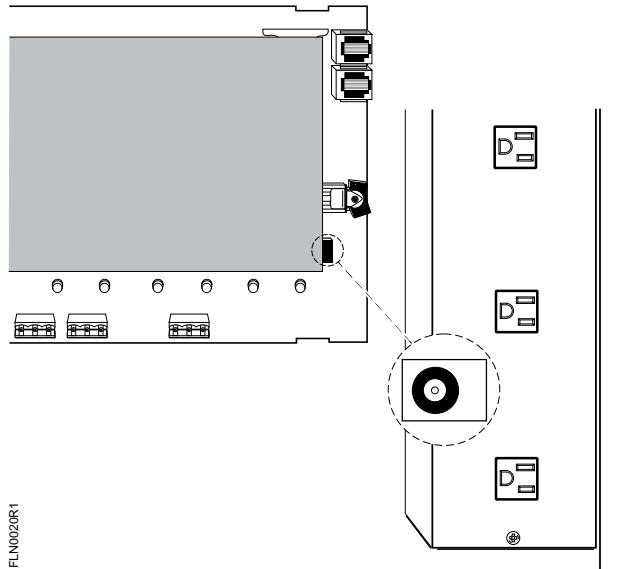

Figure 7. 12 Vdc Power Supply Connection to Easylink Module.
1. Insert the DIN plug into the DIN socket labeled "12 Vdc" on the Easylink Module (Figure 7).